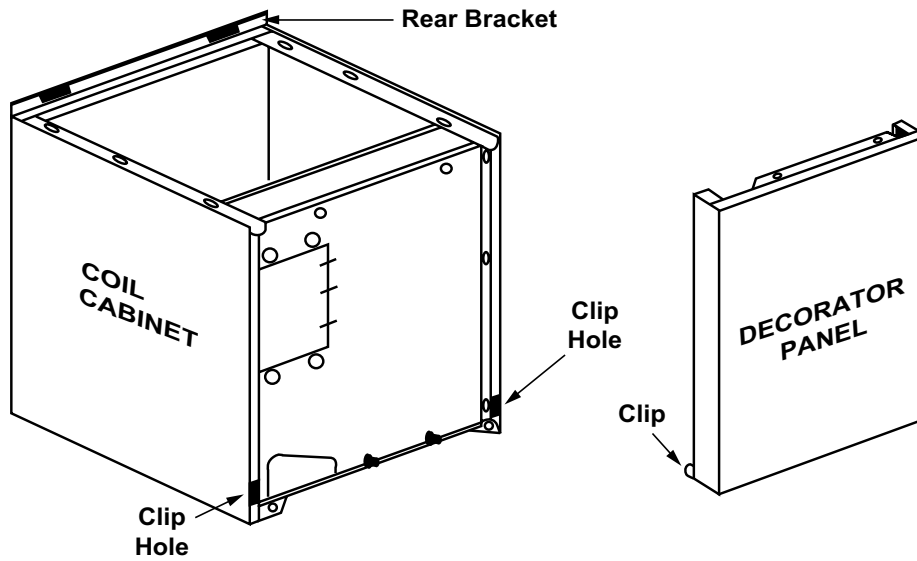

Figure 2. Coil Cabinet with Decorator Panel
15. Install the decorator panel by fitting the clips on the sides of the decorator panel into the clip holes on the coil cabinet. See Figure 2. Secure the top of the decorator panel to the base of the furnace with two screws.